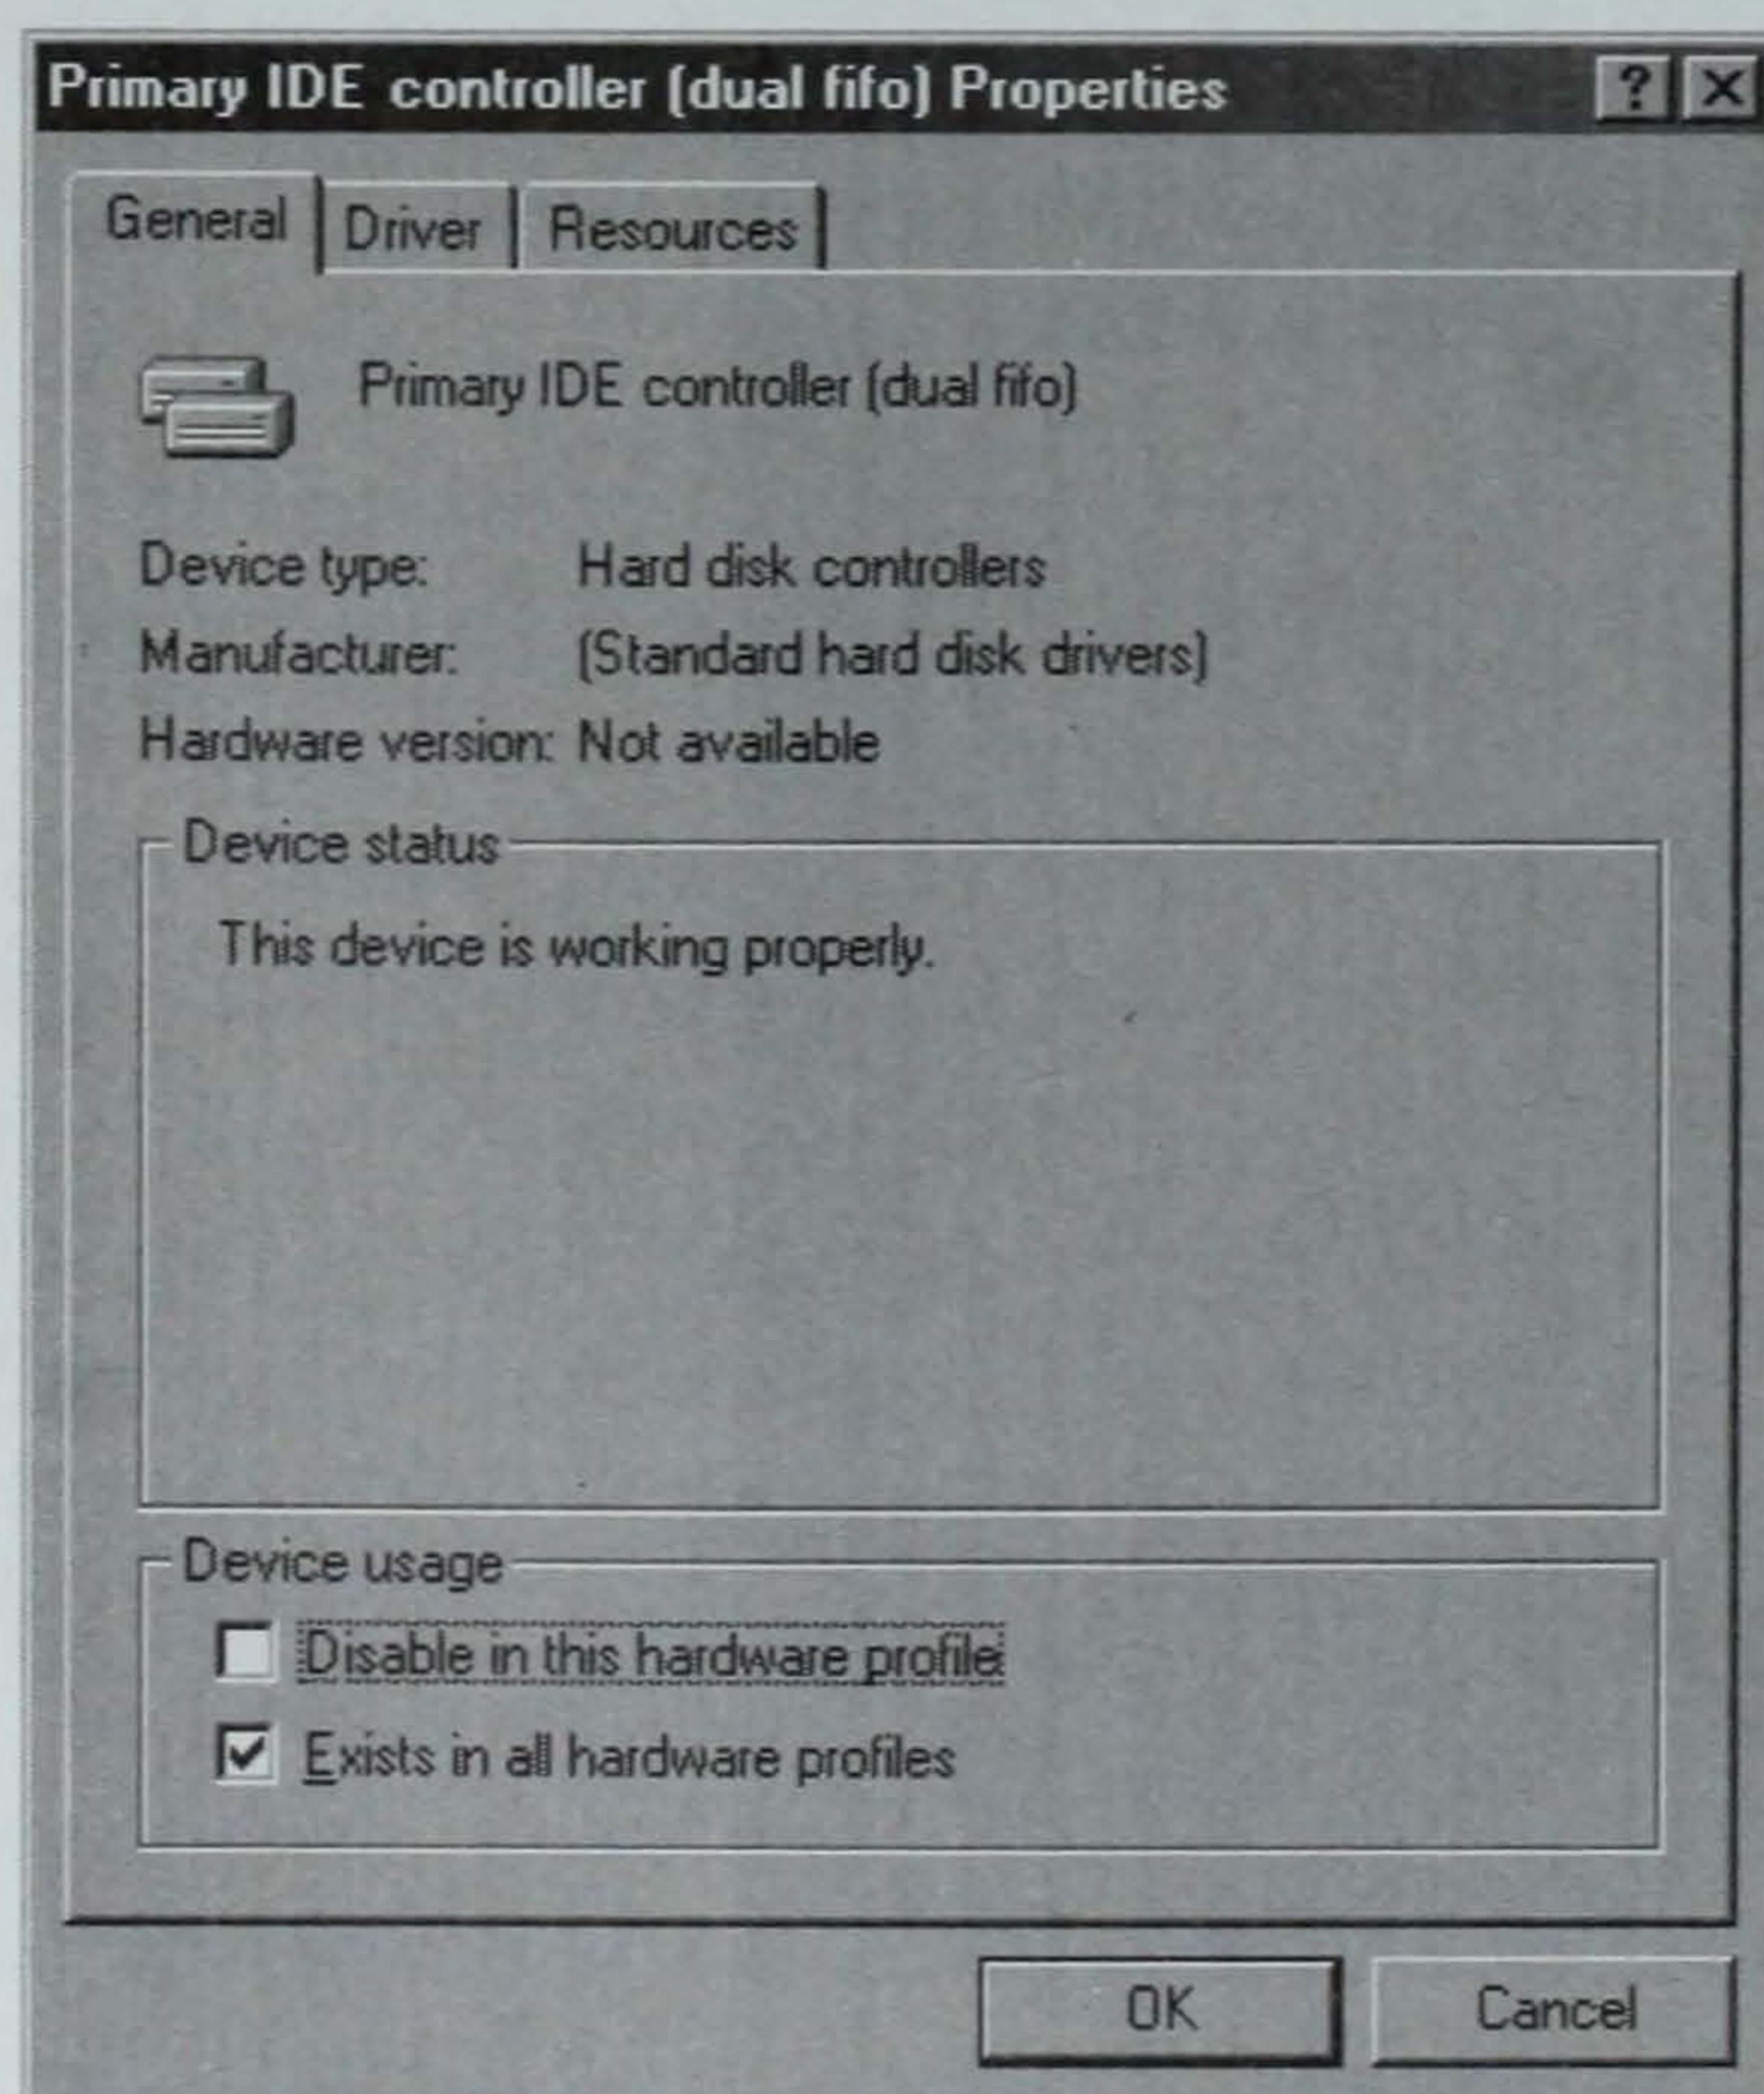

Figure 3.8 Device Manager/
- ◀ *Resource.* Reports vital information about resource addressing, including the input/output (I/O address) and the interrupt request (IRQ). As shown in Figure 3.8, this bus master IDE controller is taking I/O address 01F0-01F7, 03F6-03F6, with an IRQ of 14, with no conflicts reported.